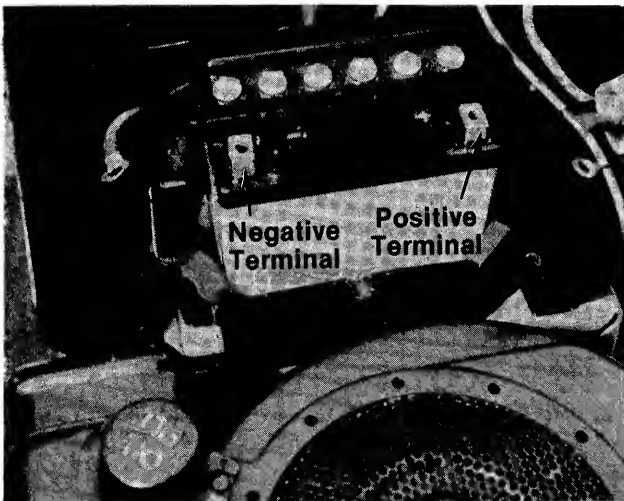

FIGURE 12.
10. Place the battery in the rider so that the positive terminal is towards the **left** side of the unit. See figure 12.